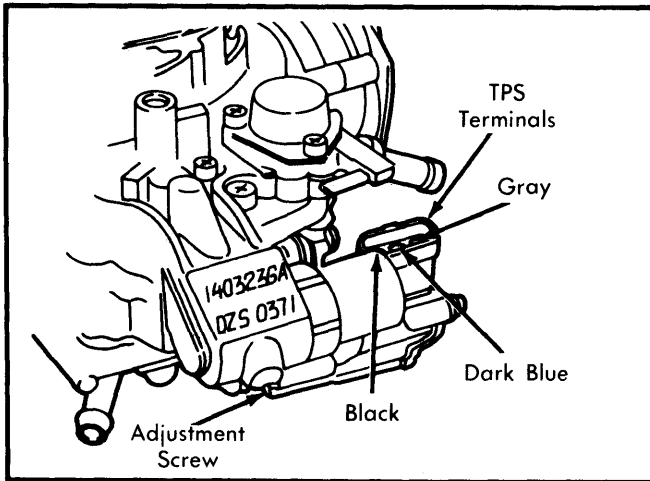

Fig. 4 TPS Adjustment Screw Location for 1.6L Engine
1) Disconnect electrical connector at TPS and attach a jumper wire to each of the 3 terminals of the connector. Attach opposite end of each wire to proper terminal on TPS2 Connect a digital voltmeter across Black and Dark Blue wires. Remove adjustment screw and coat threads with thread locking compound. See Fig. 4.